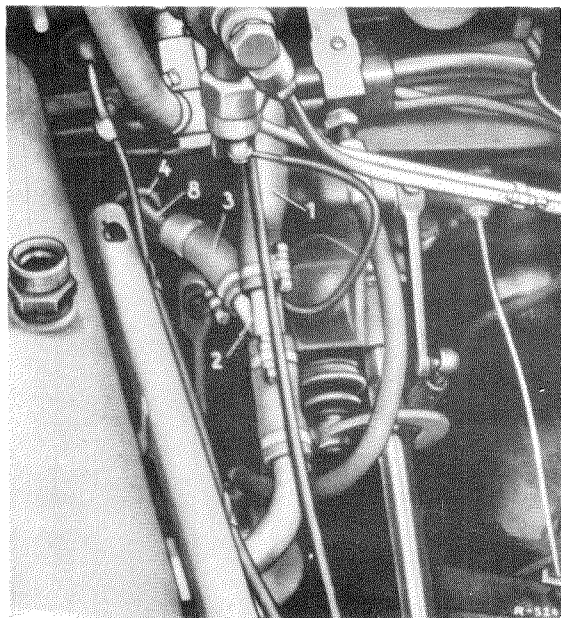

Fig. 83 — 10/2
The water for the heater unit of the underseat heating is taken from the feed pipe (1) for the heat exchangers of the air-conditioning system (Fig. 83 — 10/2) via a Tee-piece (2) and connecting hose (3), and the water returns to the return pipe of the heat exchangers of the air-conditioning system via another Tee-piece (2) and a water hose (3) (Fig. 83 — 10/3).